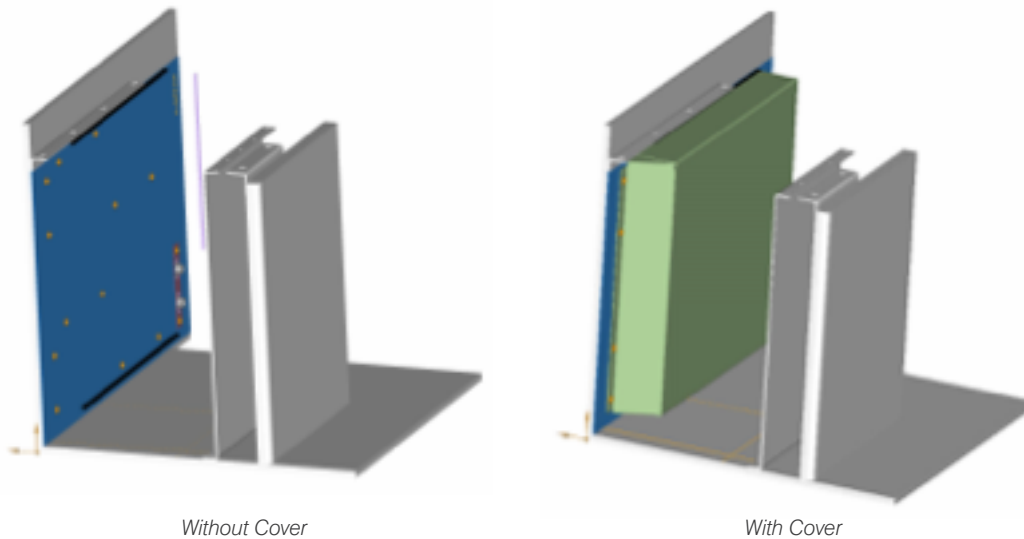

FIGURE 5:
- » RPU 1 and 2 will be co-located on the lower forward side of the captain's closet in the cockpit. The modification will require potted inserts to be installed into the honeycomb wall to mount a cover and provisions to install (2) RPUs (see Figure 5).